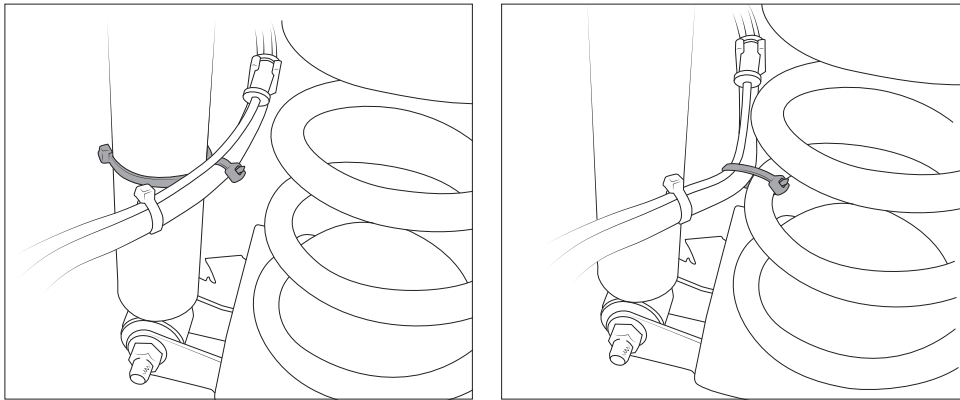

Figure 33
27. For **2011 and newer** models, use supplied zip ties to secure the brake line to the shock as shown. For Remote Reservoir shocks, secure brake line to the spring (Fig. 33).